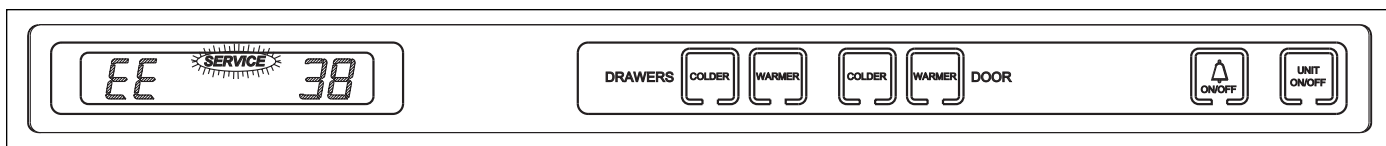

Figure 3-34. Model 700TR-2
- For Model 700TR-2, See Figures 3-34 through 3-37